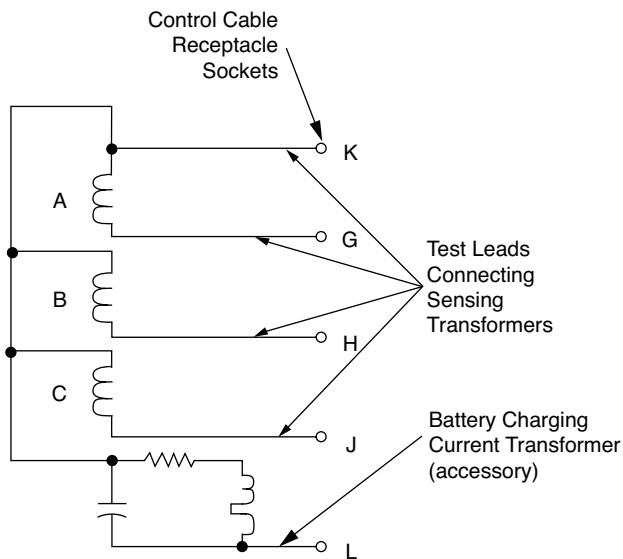

Figure 31. Ratio test circuit for sensing CTs
2. Connect the ohmmeter across bushings 3 and 5. (Refer to Figure 31 for bushing identification.)
1. Connect all three phases of the recloser in series as shown in Figure 31.